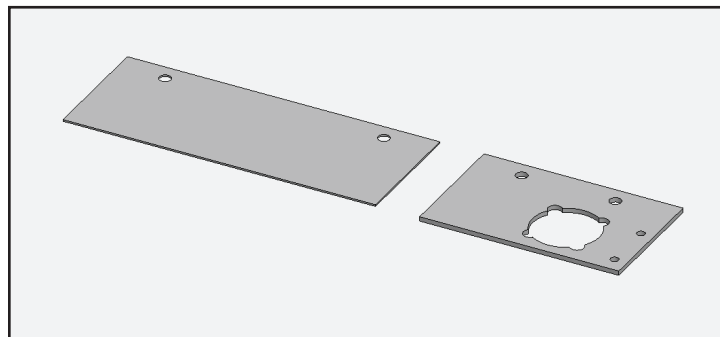

Fig. 16. Cover plate and torque master plate. Located in the interior packaging with the leveling tools.
1. Locate the replacement torque master plate and cover plate in the interior packaging with the leveling tools. See fig. 16. Set aside.